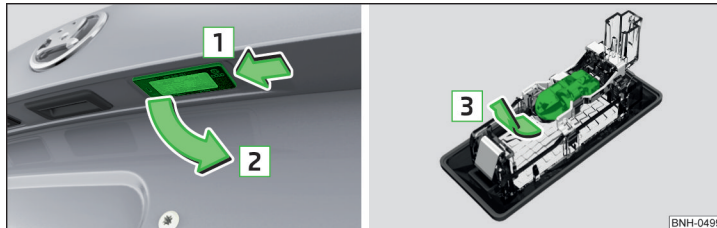

Fig. 159 Remove the number plate light/replace the bulb
- Push in the lamp in the direction of the arrow **1** » Fig. 159.